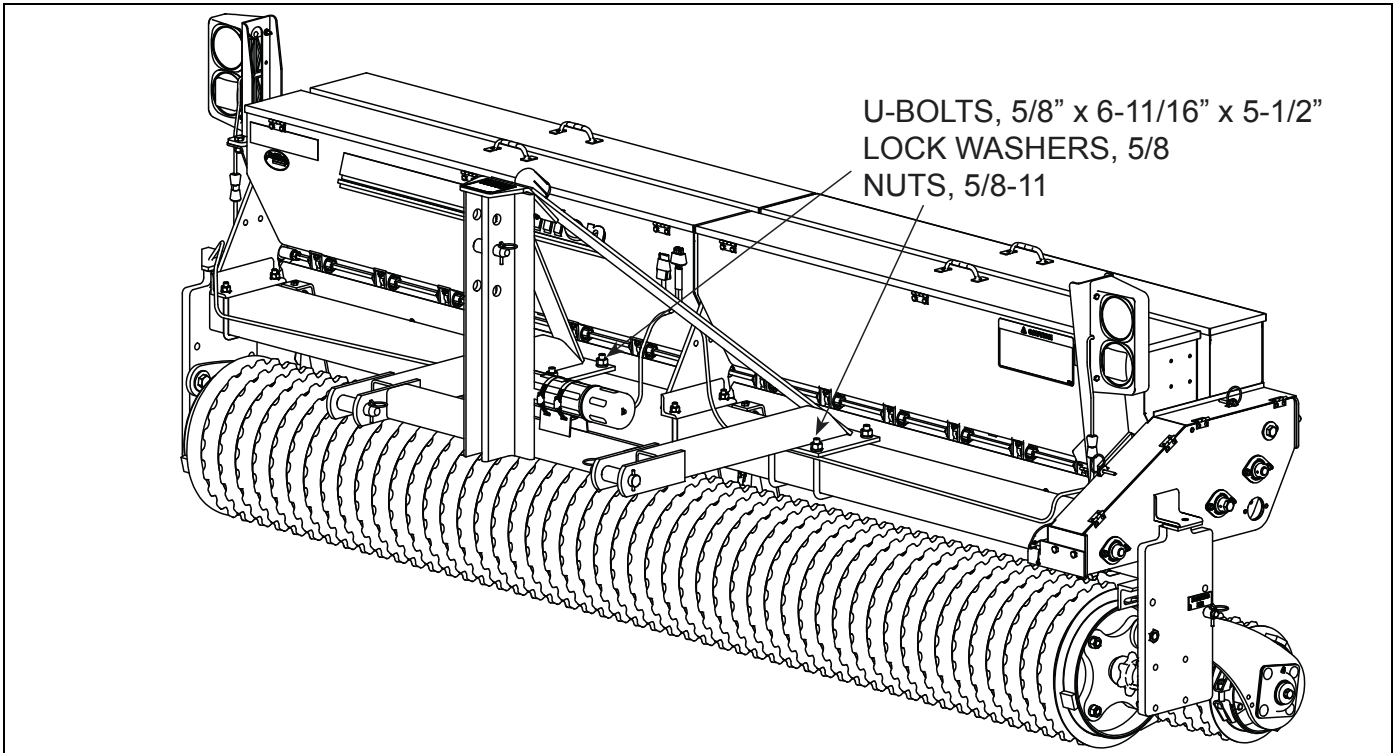

Figure 2-17: 3 Pt. Hitch
1. Position three-point hitch weldment on center of frame and secure with four 5/8" x 6-11/16" x 5-1/2" U-bolts, lock washers and nuts from bag in seed box. See Figure 2-17.